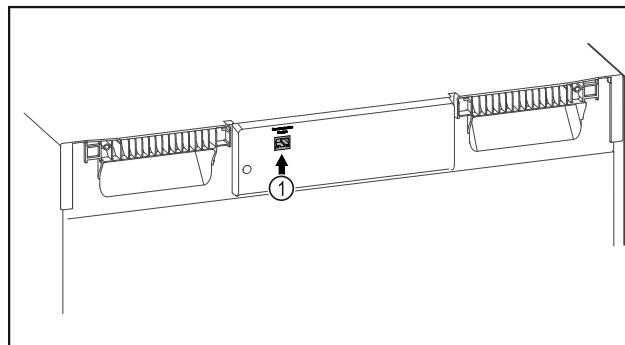

Fig. 133
- SmartModule Fig. 133 (1) is in use.